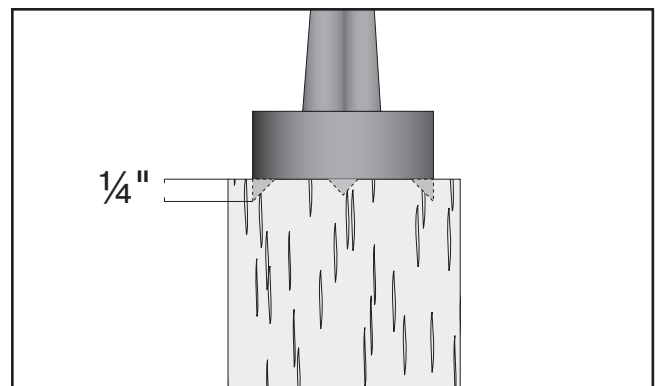

Figure 36. Spur center properly embedded.
6. Drive spur center into end center mark of workpiece with wood mallet to embed it at least $\frac{1}{4}$ " into workpiece, as shown in **Figure 36**.